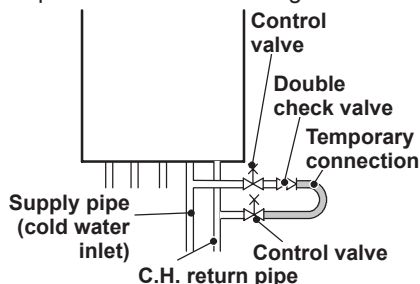

Fig. 2.1
- Isolate the boiler from the electrical supply at the fused spur. Reconnect the filling loop as demonstrated in Fig. 2.1.